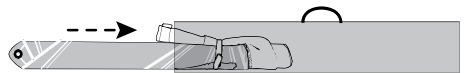

Fig. 10: Insert with the sleeve-end first into the sail bag and store horizontal.
- Insert your sail sleeve-end first into the sail bag (fig. 10).